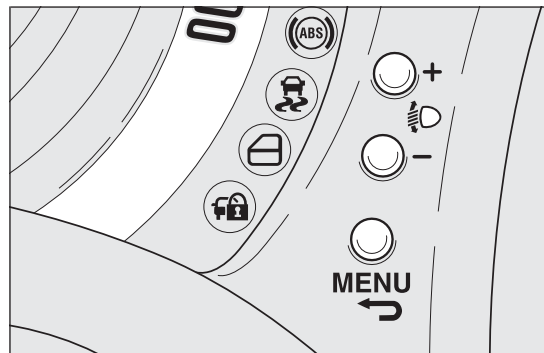

fig. 12
**+** To scroll through the screen and the related options upwards or to increase the value displayed fig. 12.